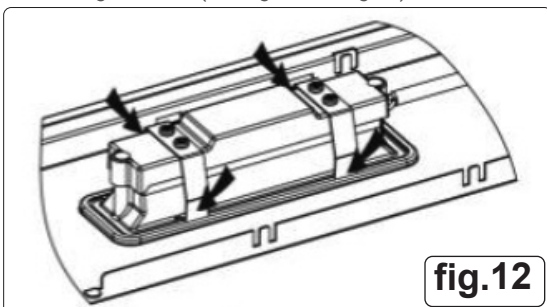
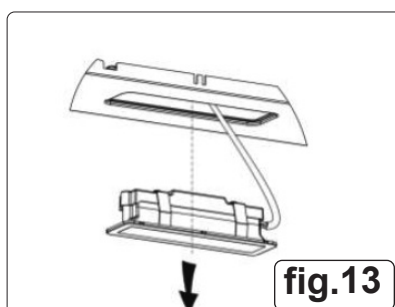
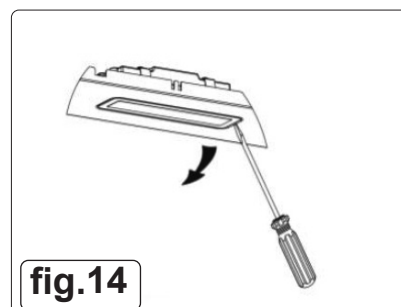

fig.12
fig.13
fig.14
- 1. Use a tool or the hand to press the spring splinter of both sides of LED light to the inside, until the light is pressed out, then slightly pull the light connecting wire out. (See fig.12 and fig.13).
- Use straight screwdriver to prize up the **LED** light bottom edge, (see fig.14). then slightly pull out the **LED** light and light connecting wire. (See fig.13).